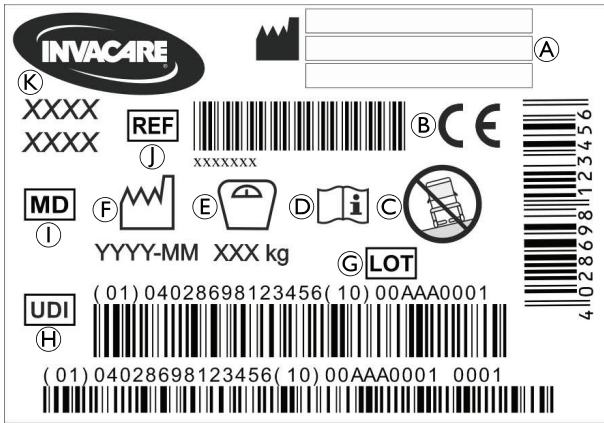

Fig. 7
2.2 Labels and Symbols on the Product (Fig. 7)